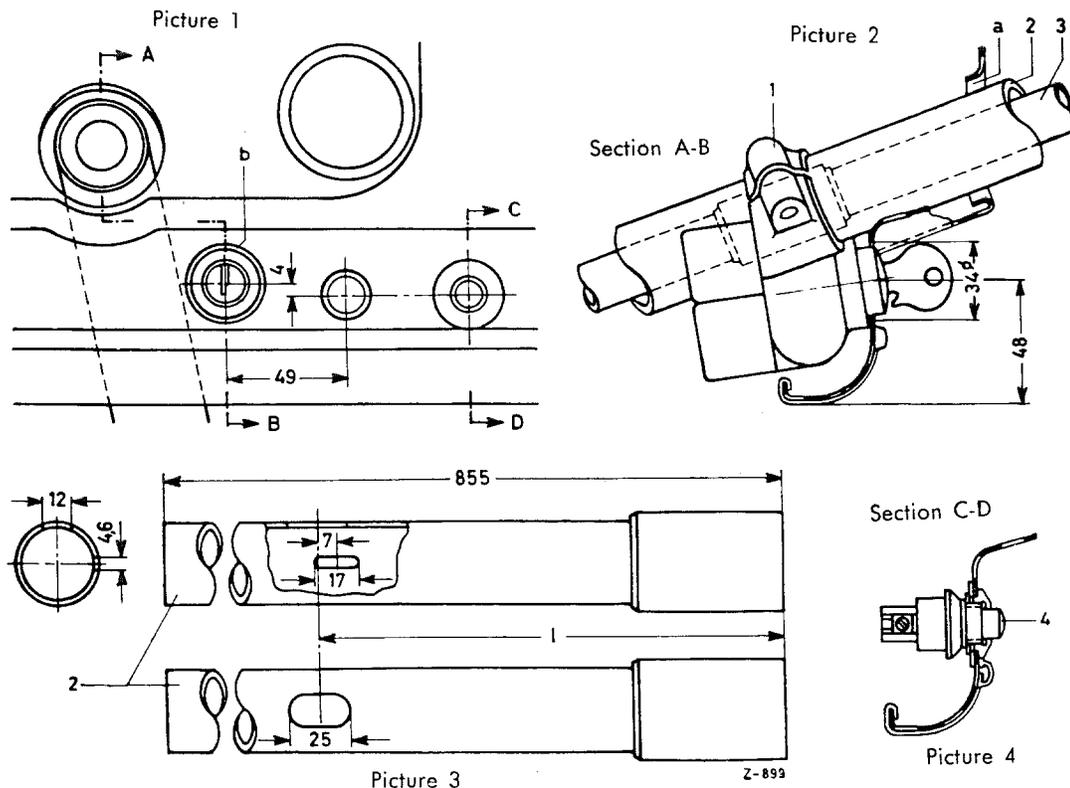

Fig. 46-8/5
20. Slide the rubber support (21) with shims (33) onto the cross strut under the steering column jacket and install the clamp. Install the two hexagon screws (25) from below and tighten. Also tighten the clamping screw of the steering lock (see Fig. 46-8/4).
When a steering lock is installed subsequently, the steering column jacket need not be replaced, since it can be modified for the installation of the steering lock. To do this mark and file the two slots on the steering column jacket as shown in picture 3 in Fig. 46-8/5, making sure that the two slots are arranged at the correct distance from one another and at an angle of 90°.
After having mounted the steering column jacket on the steering tube, cut out the circular opening (b) (approx. 34 mm  $\phi$ ) on the instrument panel to take the cylinder of the steering lock. To do this loosen the hexagon screw on the steering lock and back out the grub screw slightly so that the steering lock can be moved on the steering column jacket. When filing the opening check the steering lock for position several times (Fig. 46-8/5).
Remove the starter switch and replace it by the push-button switch (4) Part No. 000 545 27 08 (see Fig. 46-8/5).